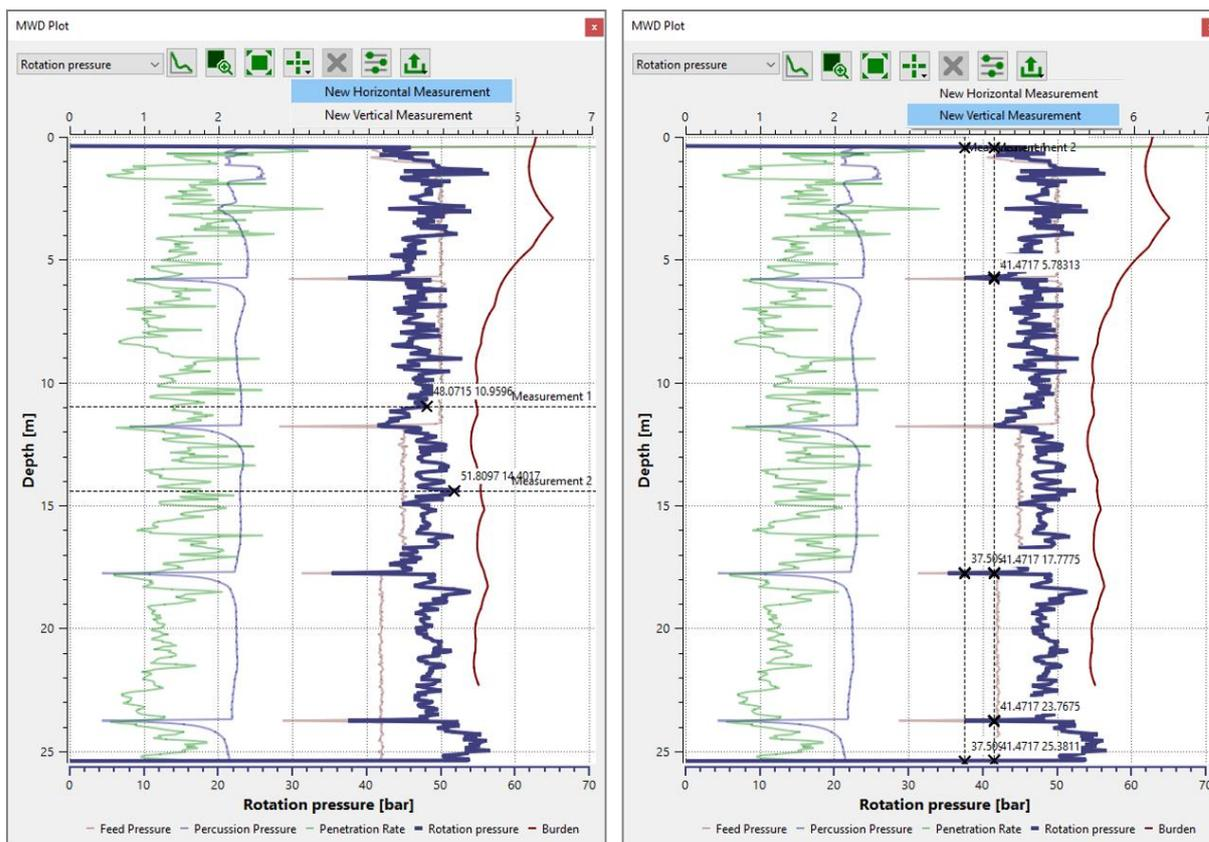

Figure 101: Adding of measurements. Left: horizontal measurement. Right: vertical measurements.
1. Click the icon "Add Measurement"  and select "Horizontal Measurement" or "Vertical Measurement" (Figure 101).